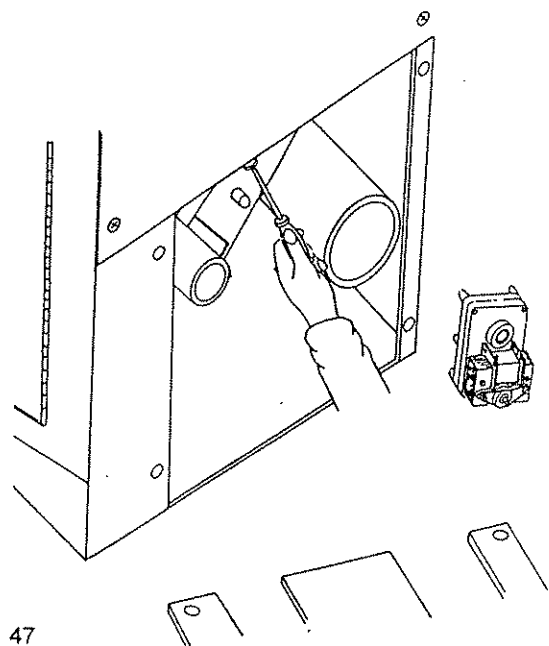

Fig. 47
- F. Remove the next two screws from the bracket (item no.55) on the end of the Auger Tube (item no.52). Place a large tray under the auger tube (item no. 52) as build up of pellets and dust will come down with unit. (see fig.47).